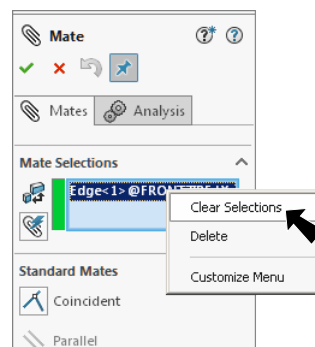

Fig. 4
Step 3. If you select the wrong entity, **right click** the Mate Selection in the Mate Property Manager and click **Clear Selections**, **Fig. 4**.